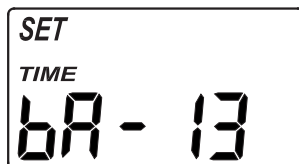

FIG. 31
2. Press the SELECT button four times, so that “SET TIME bA” appears in the display (See Figure 31).